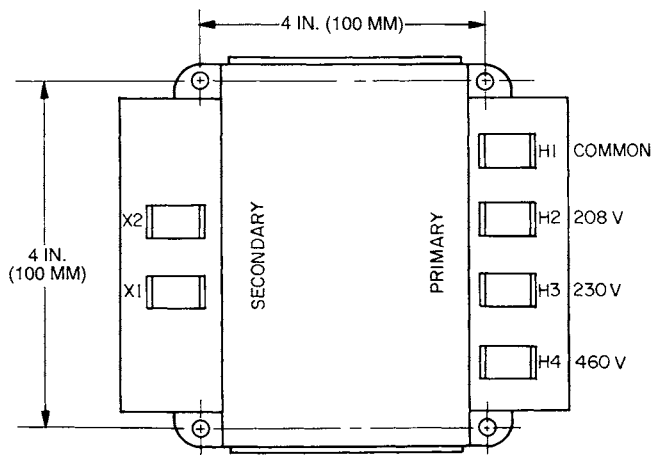

Fig. 5 — Transformer Terminal Arrangement
3. Connect primary side of transformer to unit power terminal block TB1. Connect terminal 21 of TB1 to terminal H1 of transformer and terminal 22 of TB1 to proper H terminal of transformer, according to required voltage. See Fig. 5 for transformer terminal arrangement.